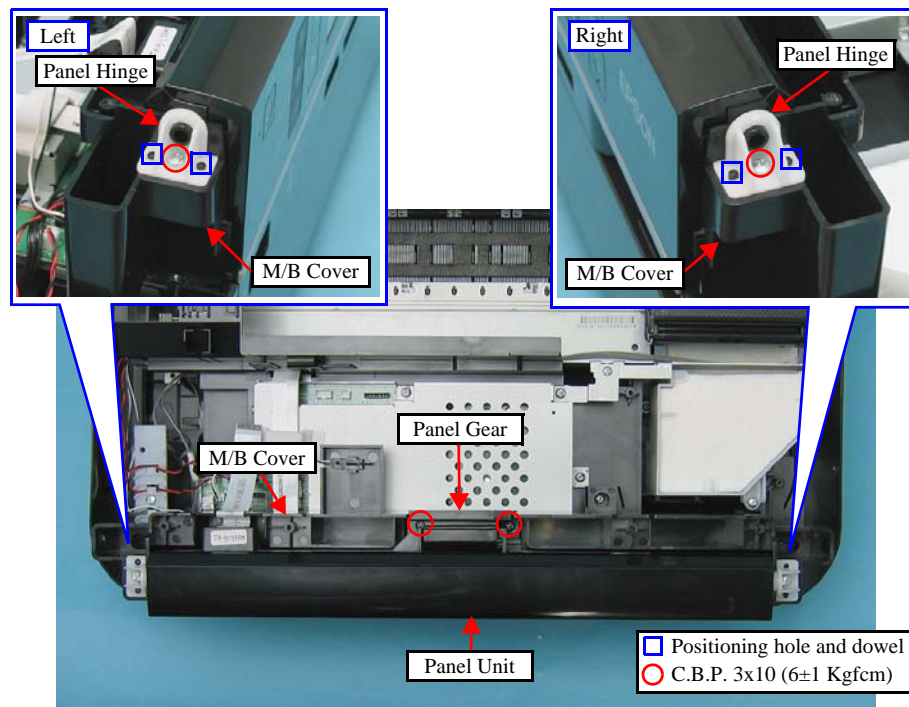

Figure 8-7. Removing the Panel Unit (2)
- When installing the Panel Unit, align the positioning holes (x2 each) of the Panel Hinges with the dowels (x2 each) of the M/B Covers. (See Figure 8-7.)